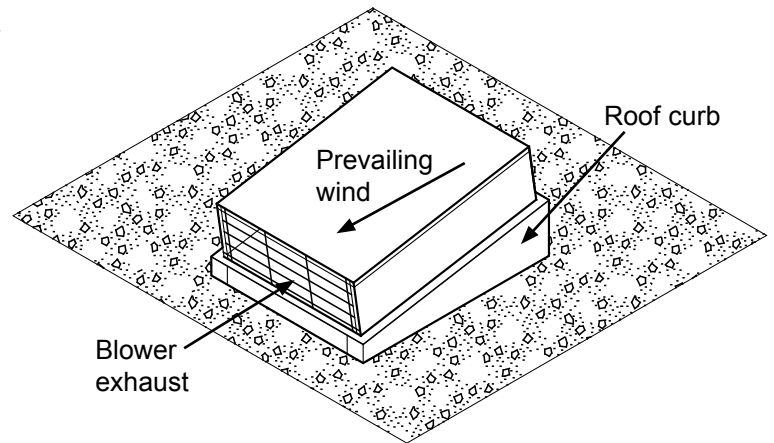

Figure 3: Installation with Roof Curb (for flat roofs)
- When mounted in a exposed location the blower must be shielded or the cover sealed to prevent the accumulation of water in the chassis. On horizontal installations, the exhaust must be oriented in a downward direction and in the same direction as prevailing winds (see **Figure 3** on facing page). When mounted vertically, the discharge must point down.